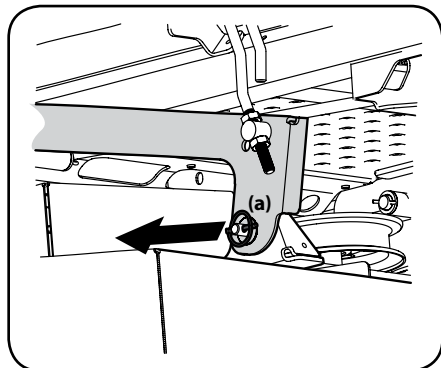

Figure 4-17
6. Locate the LH and RH deck release pins (a) on each side of the deck. Pull the release pins outward and release the deck from the LH and RH deck lift arms. See Figure 4-17.
5. Pull the deck release pins outward and maneuver the deck as necessary to align the holes in the deck lift arms with the pins. Refer to Figure 4-17.